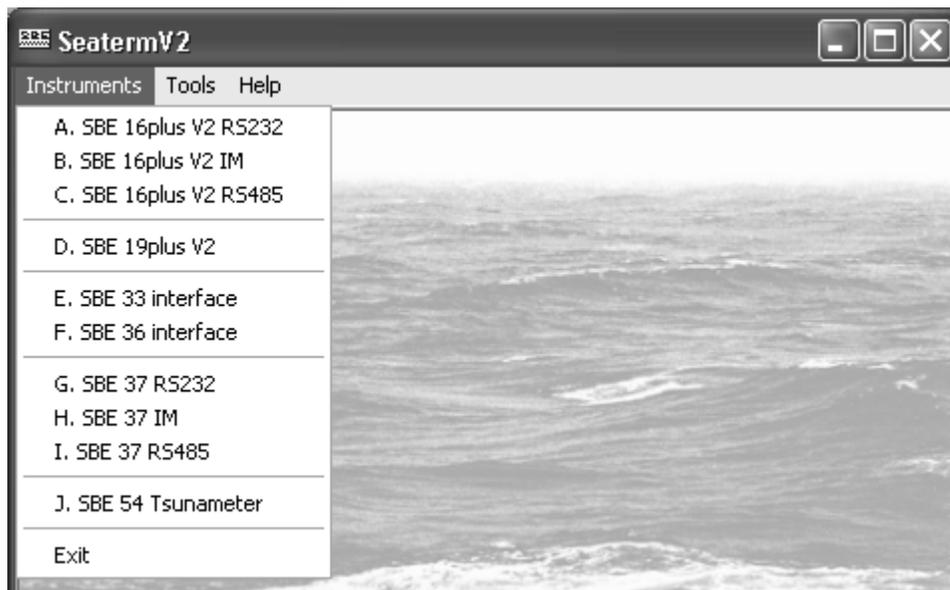

Figure 1.2 Choosing the correct profiler instrument in Seaterm.
4. Click on the SeatermV2 icon on the desktop. A window will open that looks similar to Figure 1.2: